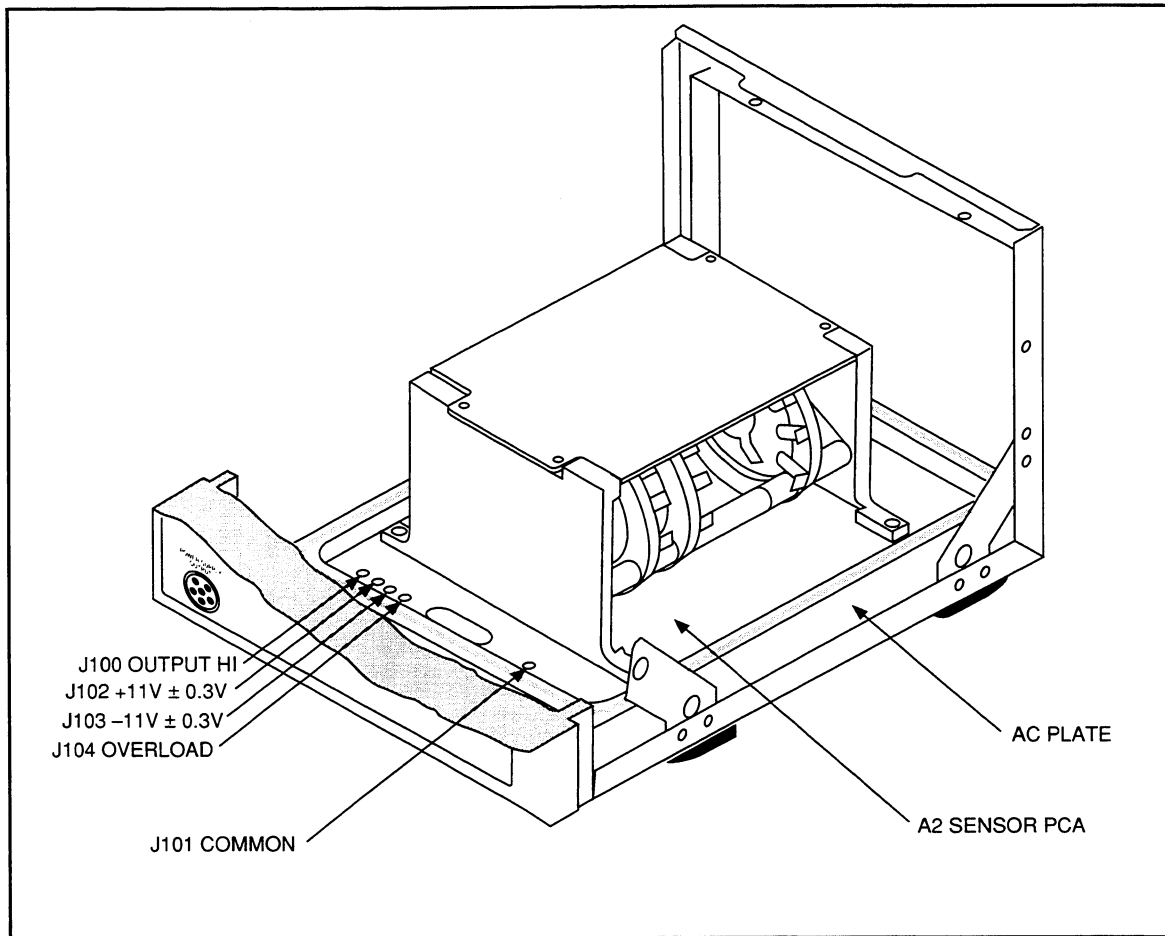

Figure 5-7. AC Plate Voltage Test Points
2. Set the range switch to 2.2V, and check the $\pm 11V$ supplies with a DMM at the test points shown in Figure 5-7.